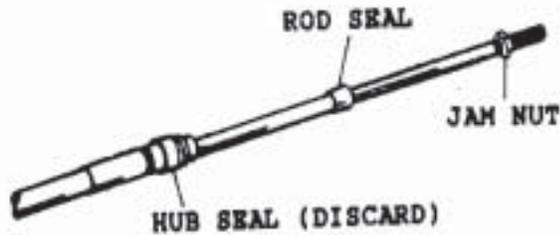

Figure 1
1. Remove the jam nut and both seals from the engine end of the cable (see Figure 1 below). Discard the hub seal only.